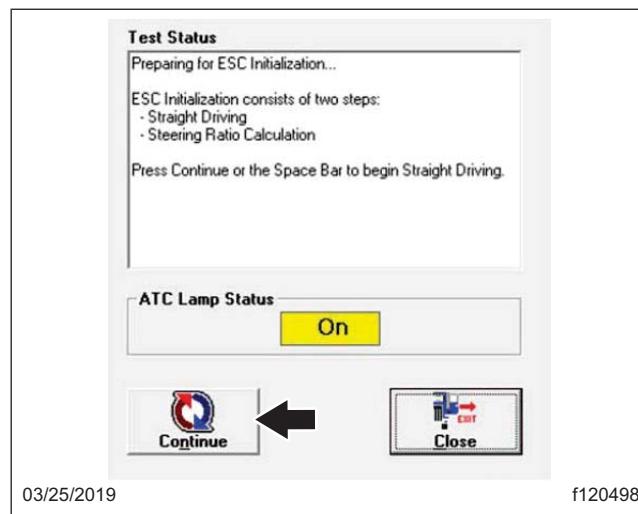

Fig. 8, Test Status, ESC Initialization
4. From the pop-up message that appears, press the space bar or select 'Continue' when ready to proceed. See Fig. 8. The automatic traction control (ATC) lamp will start blinking to inform the driver that the ECU is in learning mode.
- Carefully follow the instructions that appear in the pop-up message. See Fig. 8. The ESC initialization procedure requires the vehicle to be driven. Once the ESC initialization begins, the messages will automatically change as the requirements are met. DO NOT select the 'continue' button again as it may cause the process to fail.